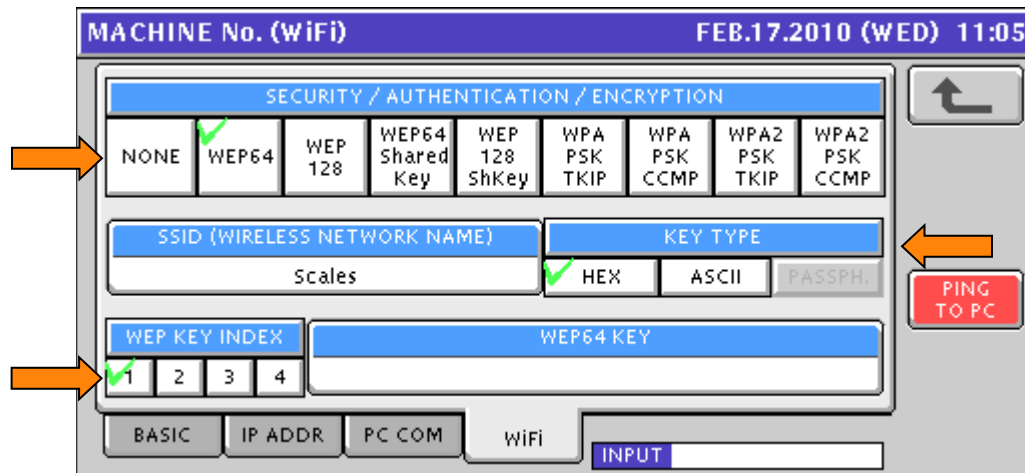

Figure 65. Select Encryption Settings
*Example: WEP64. See Figure 65.*
See Figure 65.
m. For WEP Encryption select the desired **WEP KEY INDEX**. Standard selection is "1". See Figure 65.